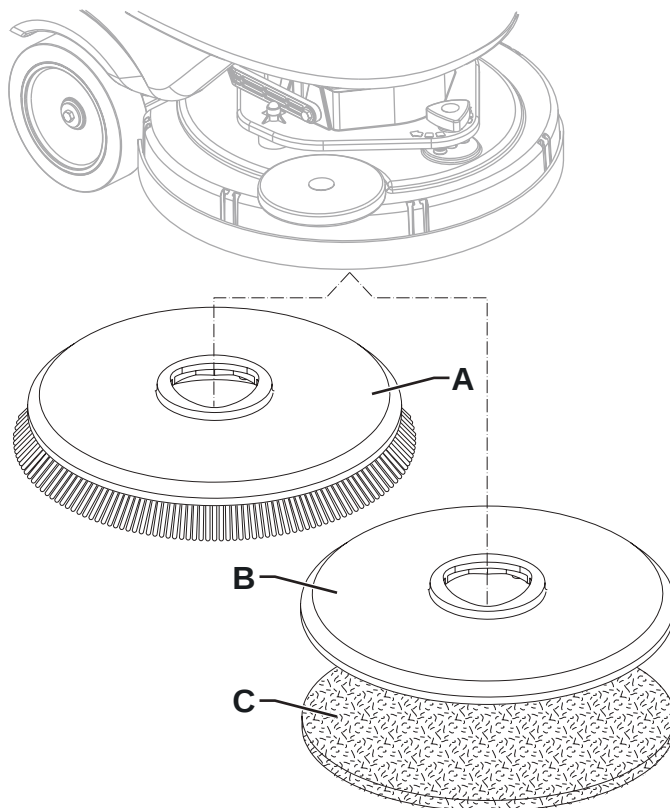

Figure 2
1. According to the kind of cleaning to be performed, the machine can be equipped either with the brush (A, Fig. 2) or the pad-holder (B) with pad (C) together with the appropriate deck.
2. Insert the operator key (41) in its slot, on the control panel (3).
3. Press the turtle push-button (45) to reduce the driving speed to idle.
4. Place the brush (A) or the pad-holder (B) under the brush deck (26).
5. Press the push-button (43) to lower the deck on the brush.
6. To engage the brush, press the paddle (2), then release it. If necessary, repeat the procedure until the brush is engaged.